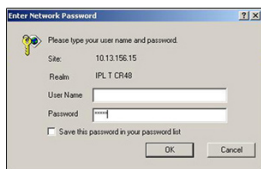

Figure 4-2 — Web server password window
2. Enter the IP address of the unit (see “IPL T CR48 interface configuration” in chapter 3) in the Address field at the top of the screen and press the Enter key. The Password window (figure 4-2) is displayed if a password has been set (this will not happen the first time you access the interface, as no password is set at the factory).
- Once passwords have been set, you will be required to enter a password (figure 4-2) whenever you log on to the unit.